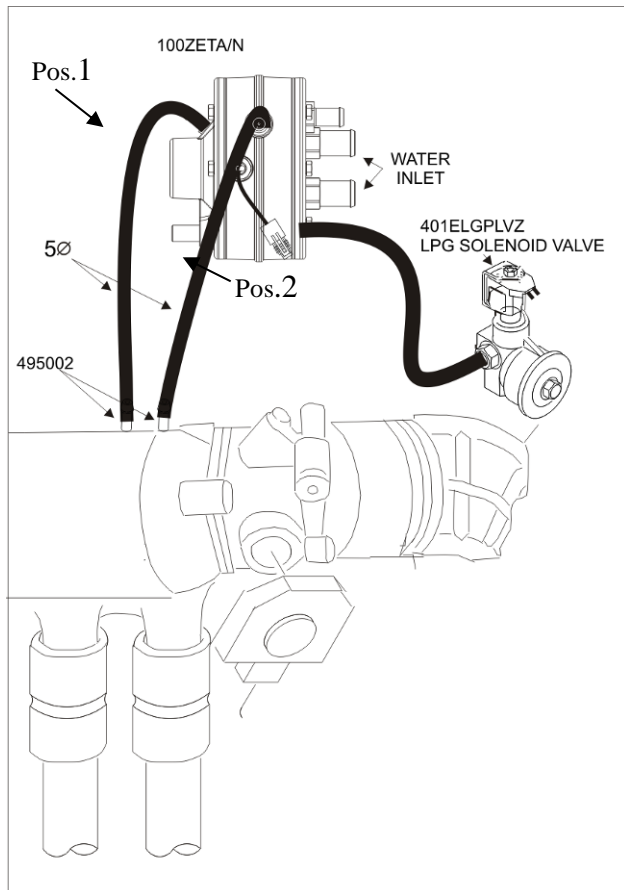

Fig. 2.4.1 -3
For correct functioning of the **ZETA** regulator, as prescribed in previous chapter, compensation must be carried out of the pressure connecting the regulator (figure 2.4.1-3 pos. 1) with the inlet manifold. Such connection happens using a \varnothing 5 mm rubber tube, one tube end is connected to the regulator fitting, the other end to a provided fitting, to be installed prior perforating and threading on the inlet manifold. The position of the hole must be exactly downstream of the butterfly valve and upstream of the ducts of the inlet manifold directed to the individual cylinders; the tube length must not exceed 700 mm, figure 2.4.1-3.